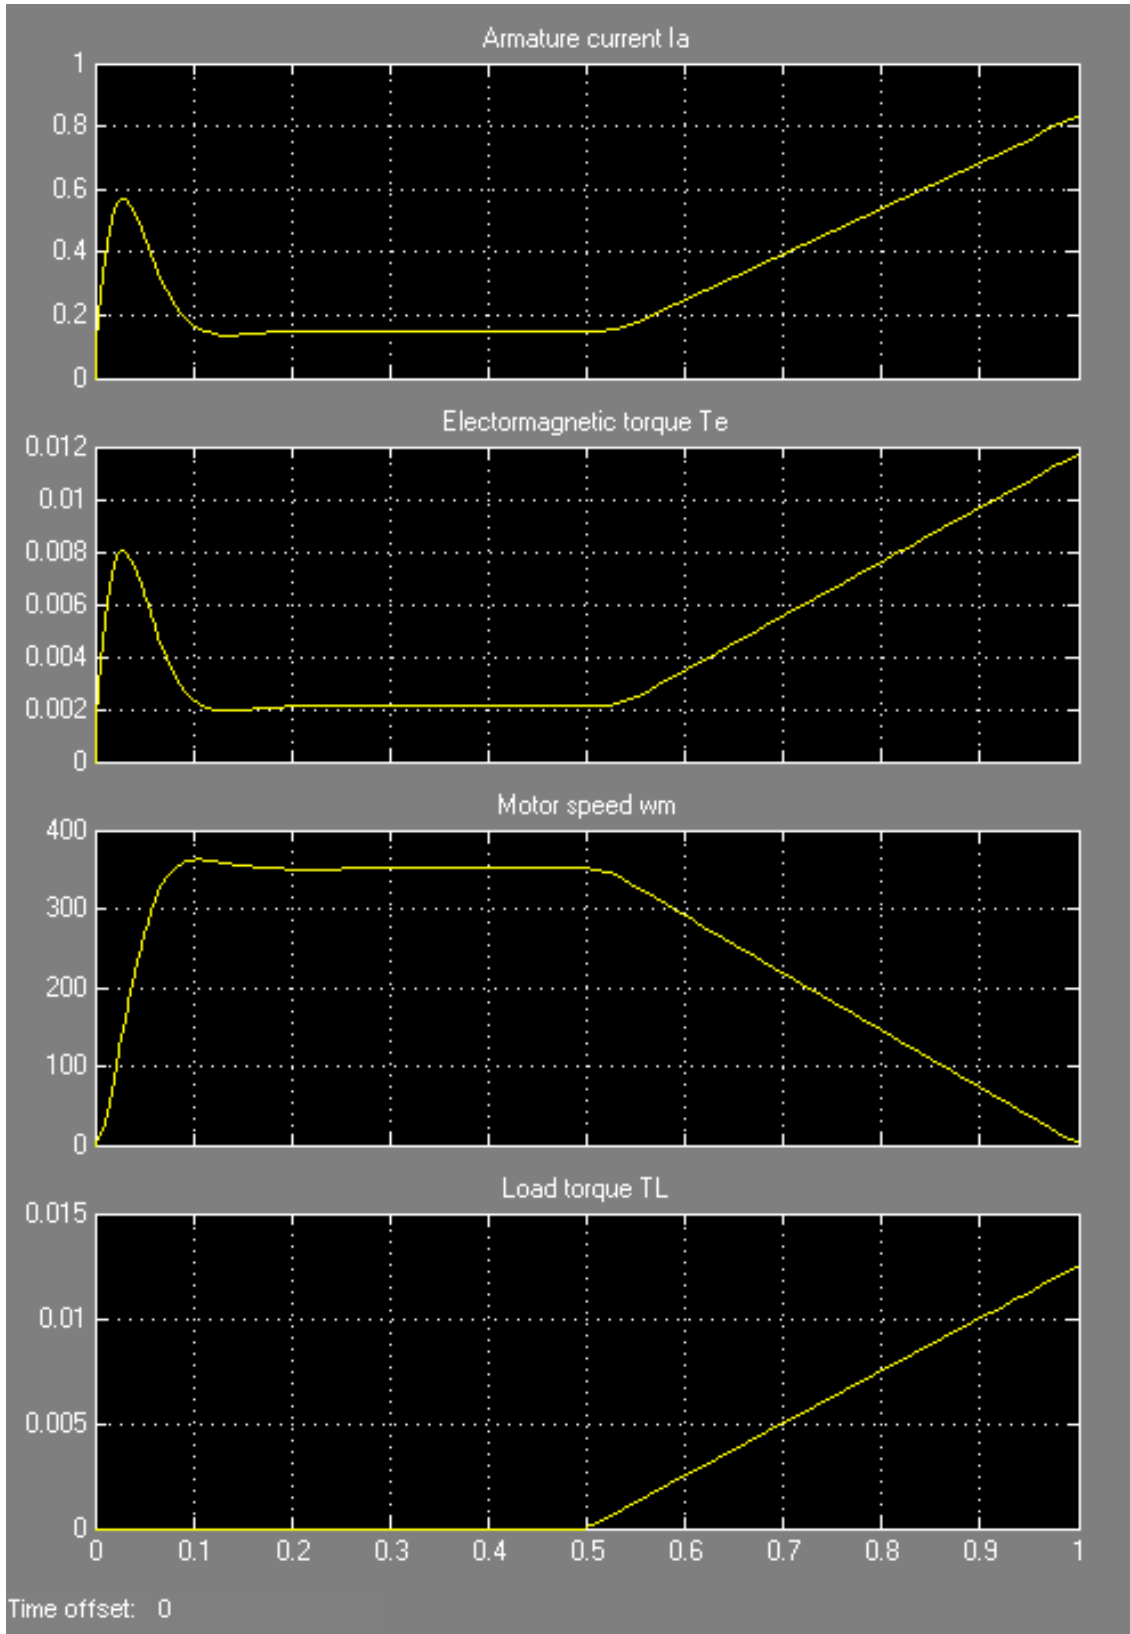

Fig. 5 Simulation results of permanent-magnet dc machine with load torque.
- (vi) Change the simulation time to 1s and run the simulation. Set the range of the first trace from 0 to 1, second trace from 0 to 0.015, third trace from 0 to 400 and fourth trace from 0 to 0.015. The graph looks like as shown in fig. 5.